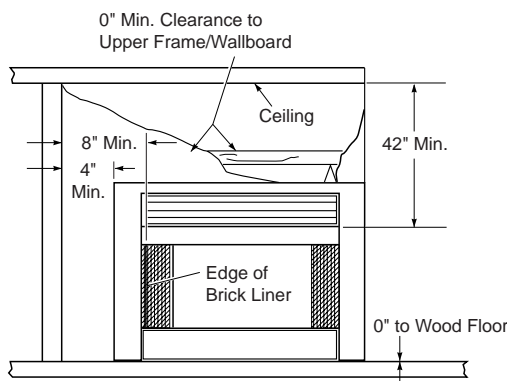

Figure 5 - Minimum Clearance - Front View
Minimum Wall and Ceiling Clearances (see Figures 5 and 6)
- Clearances from the edge of brick liner to any combustible wall should not be less than 8 inches (see Figure 5).